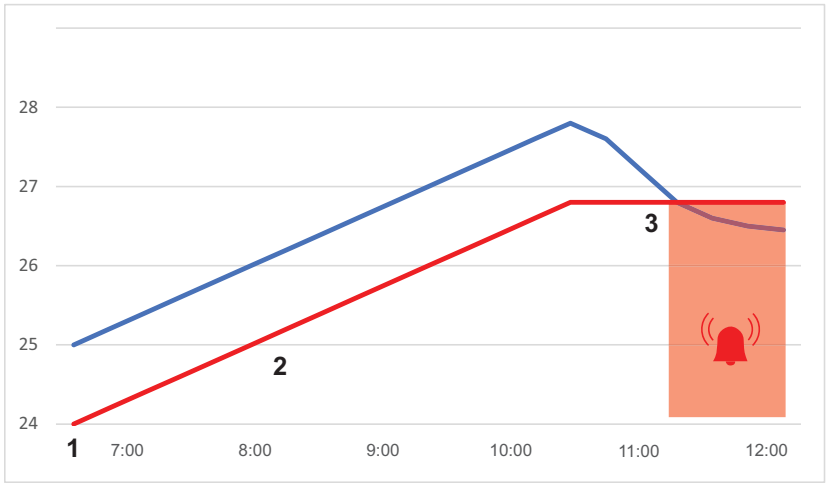

Figure 4.17. TrakLo alarm behavior
- The initial TrakLo alarm limit is set at 1°C below the current patient temperature (1 in Figure 4.17). The lowest the TrakLo alarm limit can be set to by the system is 13°C (54.5°F). The TrakLo alarm limit will be automatically set to 13°C only if the initial patient temperature is at or below 14°C (57.2°F).
- As the patient temperature rises, the TrakLo alarm limit also rises to maintain 1°C below the patient temperature (2 in Figure 4.17).
- If the patient temperature drops by more than 1°C, the TrakLo alarm sounds. The TrakLo alarm limit remains the same, at the highest recorded patient temperature since the TrakLo alarm was activated (3 in Figure 4.17).